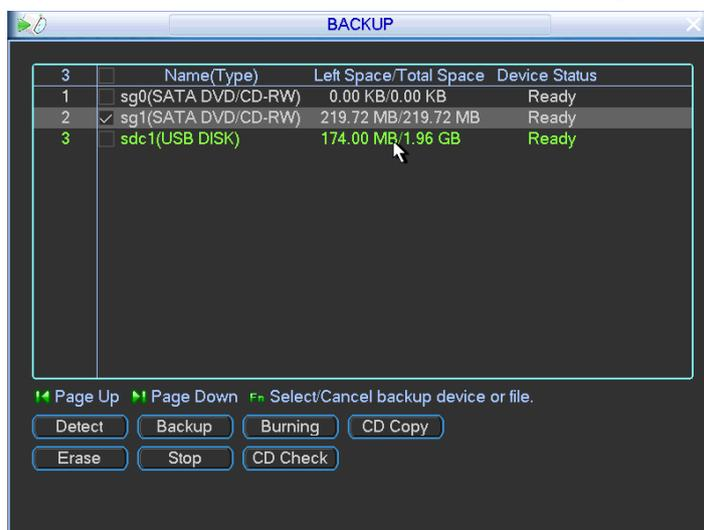

Figure 4-32
- b) Click backup button, the interface is shown as below. See Figure 4-32.